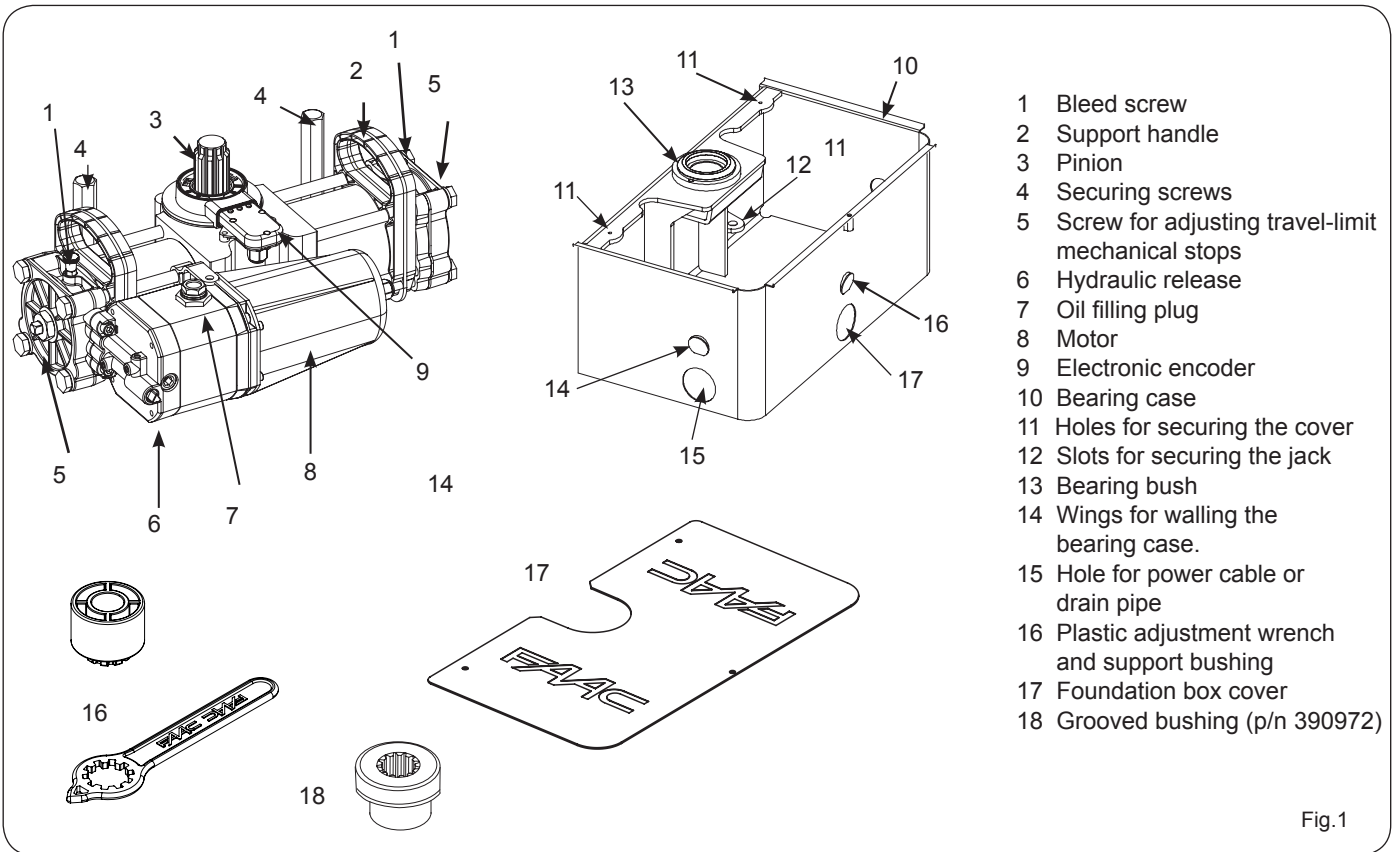

Fig.1
- 2) Connect the motor (Fig.1 ref. 8) and the encoder (Fig.1 ref. 9) to the control unit, following the specific instructions.